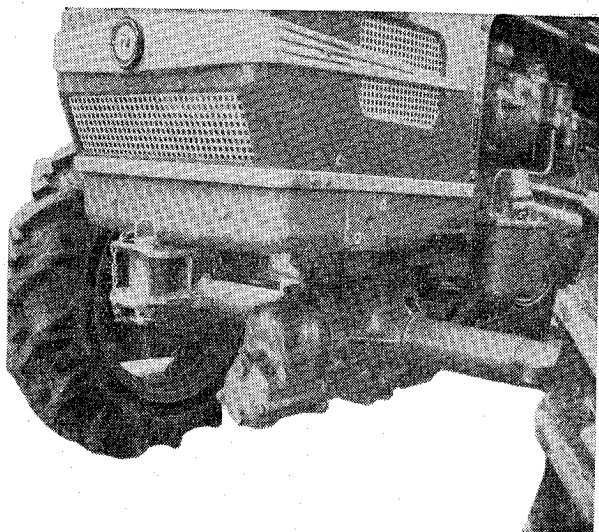
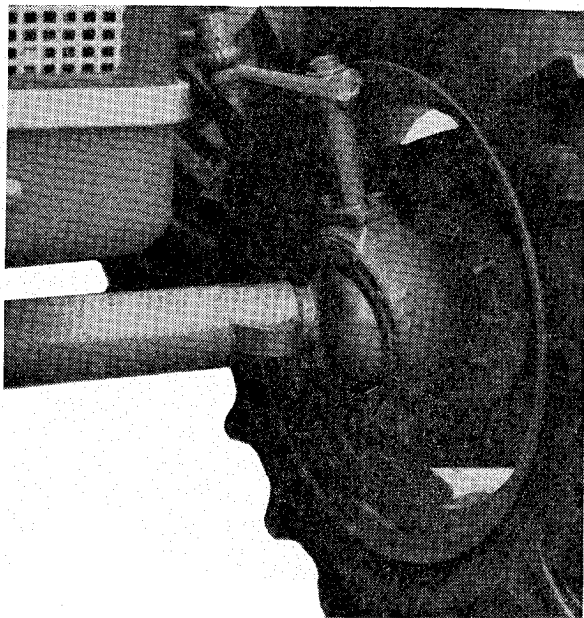

Fig. 52
Fig. 54
- front driving axle (Fig. 52)
- double joint and wheel drive (Fig. 54).
The driven front axle is both of bridge- and car-type, unsprung, swivel-mounted. The axle covers are bolted to the axle housing (Fig. 52) with tubes of the half-axes. The half-axle tubes are opened into semi-spheres (Fig. 54) in which the double joint is located. The front wheel track is given by the design and it can be enlarged only when reversing the discs. The front wheels are not adjustable vertically; it is consequently not possible to augment the ground clearance under the front axle and thus it is also not possible to change the tractor Zetor 3545 in a cultivation-type tractor.
The running-in of the tractor Zetor 3545 should be carried out in the same manner as it is done with the tractor Zetor 3511 but always with the engaged front wheel drive. The front hitch (Fig. 52) should be applied only in the case that it is necessary to pull away the tractor itself, without any trailer or implement.